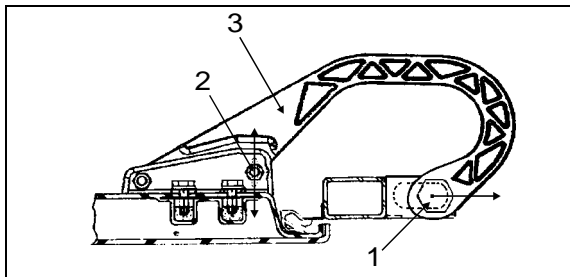

FIGURE 74: DOOR HINGE 18196
2. Loosen nut (1, Fig. 74).
3. Move part (3, Fig. 74) as shown in figure for "LEFT or RIGHT" adjustment.
4. Tighten nut (1, Fig. 74).
5. Loosen nut (2, Fig. 74).